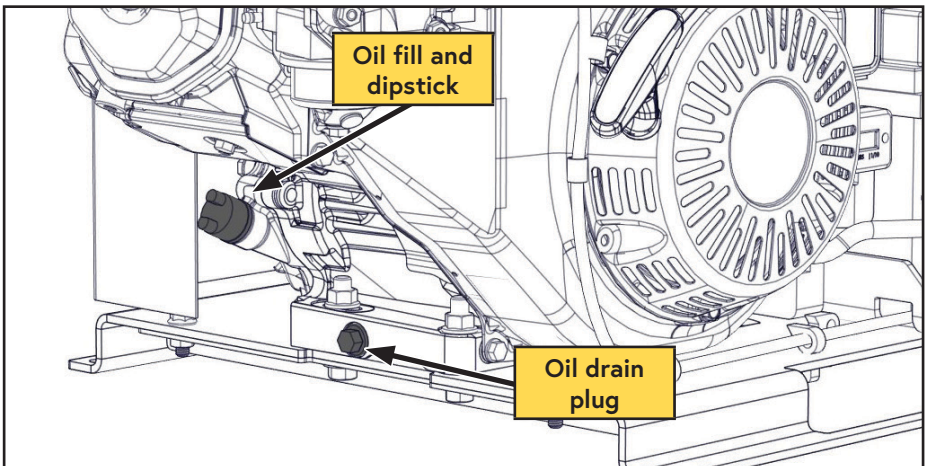

Figure 40 — Engine oil drain
- Locate the engine oil drain and clean the area around the drain plug and dipstick to prevent contamination (Figure 40).